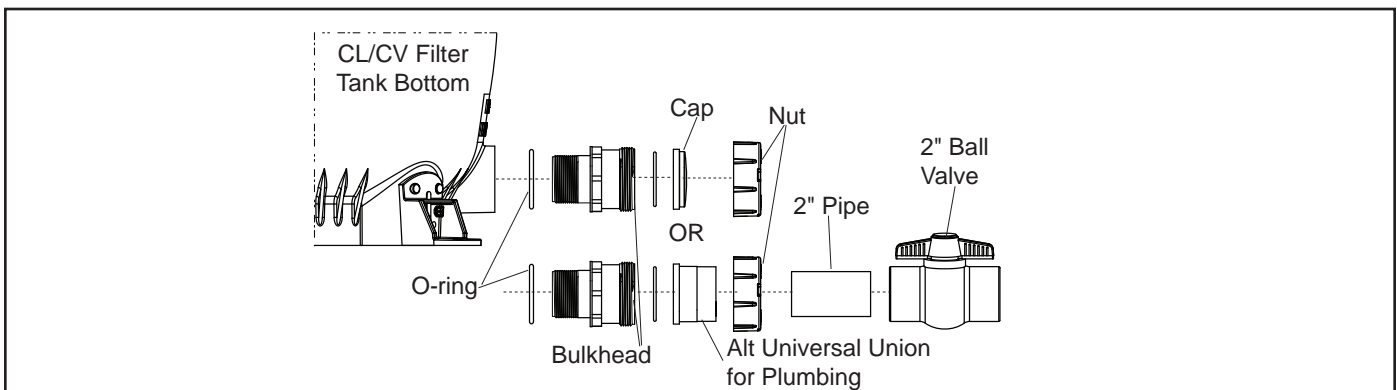

Figure 6. Jandy CL and CV Series Cartridge Filter Drain Configurations
9. Connect the pipes using the unions supplied with the filter. **Do not use teflon tape or pipe dope on any unions.** Assemble the unions dry and hand tighten. See Figure 6.
10. If desired, the CV filter drain can be plumbed using a Jandy universal union. The plumbing must contain a ball valve as shown in Figure 6.